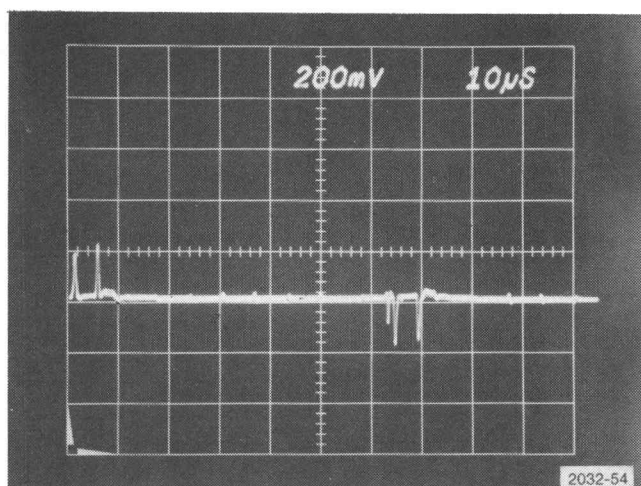
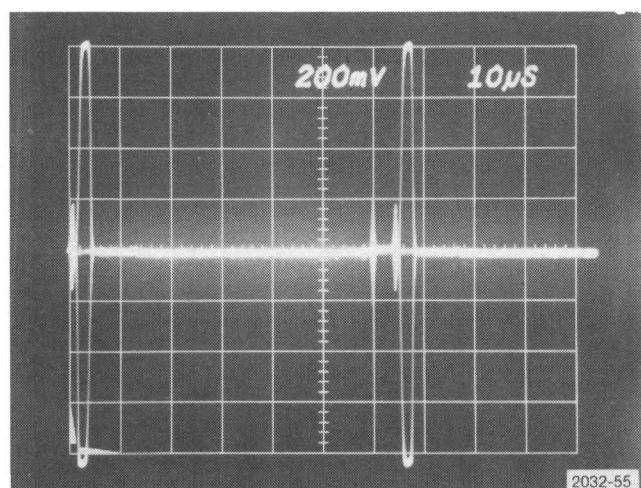

Fig. 5-13. 1420 — Differential Phase setup.
Fig. 5-14. 1421, 1422 — Differential Phase setup.
- Rotate the PHASE control for minimum amplitude of the demodulated subcarrier. See Fig. 5-13 or Fig. 5-14.